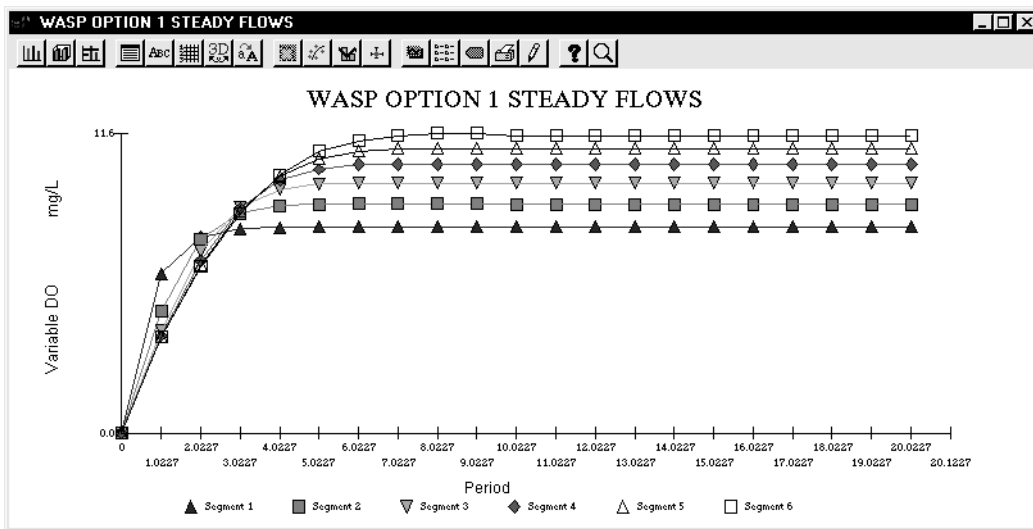
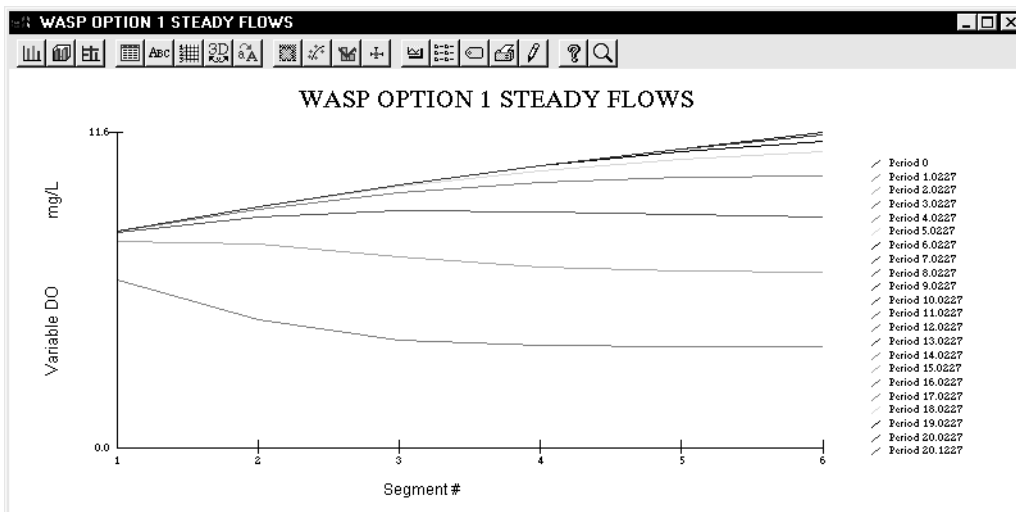

Figure 24: Parameter vs. Time Graph for Each Segment.
Figure 25: Parameter vs. Segment for Each Time Period.
7. You can graph your results by selecting the **Graph Type** and then the **Graph** button. Figure 24 illustrates parameters vs. time at each segment, by using the **Parameter vs. Time** option. Figure 25 shows parameters vs. segment for each time period, by using the **Parameter vs. Segment** option.